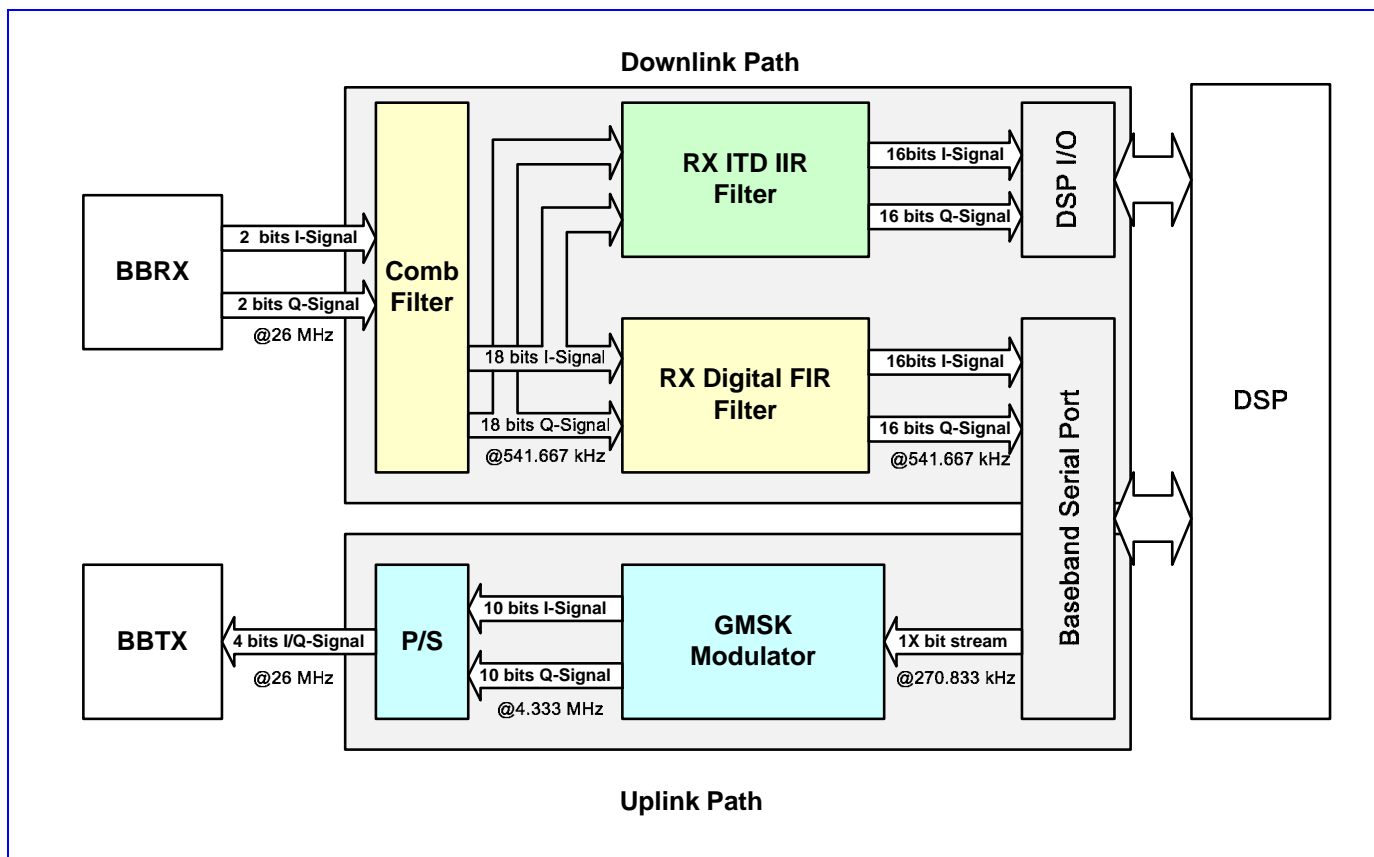

Figure 52 Block Diagram of Baseband Front End
Baseband Front End is a modem interface between TX/RX mixed-signal modules and digital signal processor (DSP). We can divide this block into two parts (see **Figure 52** Block Diagram of Baseband Front End). The first is the uplink (transmitting) path, which converts bit-stream from DSP into digital in-phase (I) and quadrature (Q) signals for TX mixed-signal module. The second part is the downlink (receiving) path, which receives digital in-phase (I) and quadrature (Q) signals from RX mixed-signal module, performs FIR filtering and then sends results to DSP. **Figure 52** Block Diagram of Baseband Front End illustrates interconnection around Baseband Front End. In the figure the shadowed blocks compose Baseband Front End.